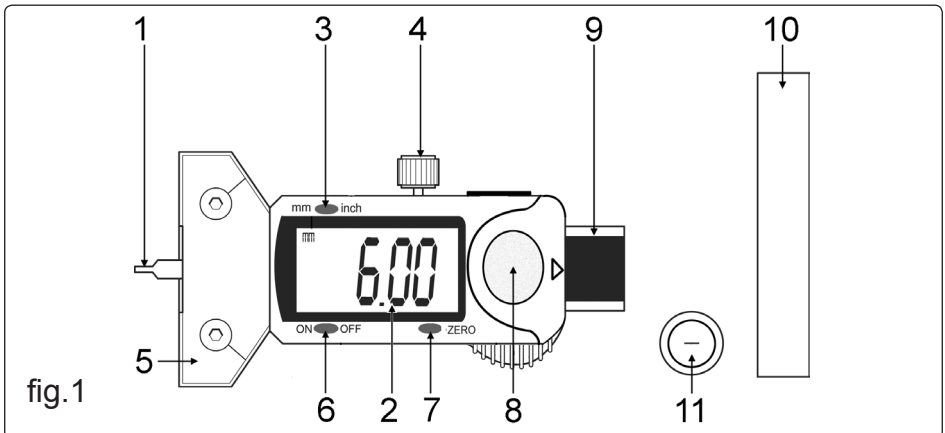

fig.1
Prior to operation, perform a zero setting. To do this place the gauge foot on the zero set bar (fig 1 item 10) and press the probe down until it is level with the base then press the 'ZERO' button, the gauge has been set to zero when the LCD displays '0.00'. Note: After zero setting, the gauge retains this setting until the 'ZERO' button is pressed again or battery is removed.